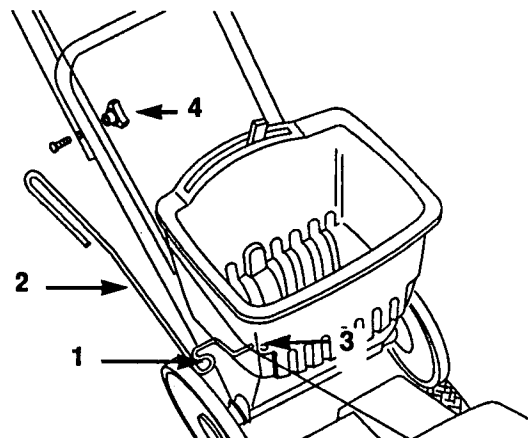

Figure 83
3. Remove the handle knob and bolt (Fig. 83) from the right side of the mower.
- A. Insert the mounting rod into the hole on the right side of the hopper (Fig. 83).
- B. Put the engine rope into the curve in the mounting rod (Fig. 83).
2. Remove the mounting rod and bracket from the handle and the hopper (Fig. 83). Reinstall the handle knob and bolt.